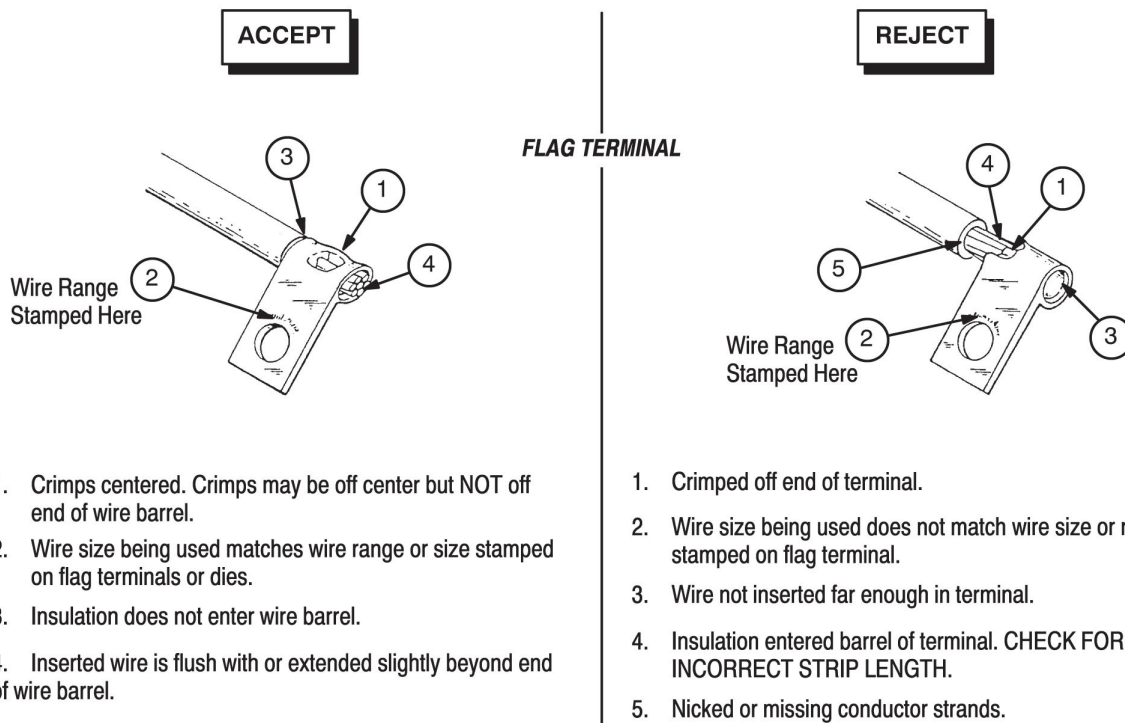

Figure 5
**5.1. Crimp Inspection** (Figure 5)
Inspect crimped terminals by checking the features described in Figure 5. Use only terminals that meet the conditions shown in the ACCEPT column. Terminals displaying the features shown in the REJECT column can be avoided by careful use of these instructions and by performing the maintenance and inspection procedures described in Paragraphs 5.2 and 5.3.